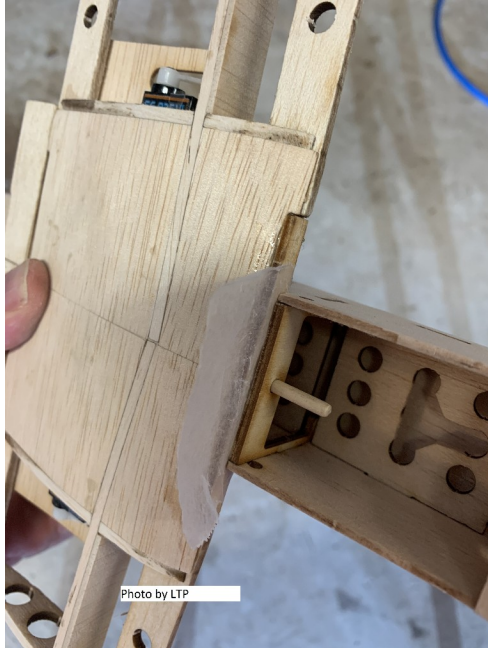

Figure 9 & 10 - Aligning Wing – Gluing Leading Edge Mount to wing
19. Glue the Leading-Edge Brace (WB1) to the leading edge (See Figure 7-10). This should be done after the fuselage is built and glued. Use Wax Paper protect the fuselage from glue (see figure 7 and 8). Install the Leading Edge Wing bracket into the fuselage bulk head. Fit the wing onto the fuselage to allow proper fit (see Figure 9 and 10). Use 5 minute epoxy so you have time to insure that the parts line up properly and can hold it in position till it dries. **MAKE SURE THAT THE WING IS CENTERED AND PERPENDICULAR ON THE FUSELAGE.**